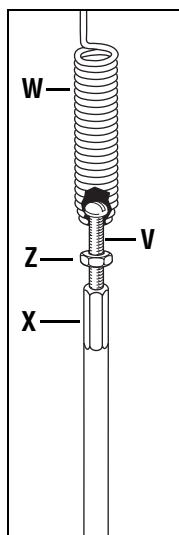

Fig. 2-5: Cable spring and adjuster.
- 2.** Thread the #10-24 hex nut (Z, Fig. 2-5) halfway onto the screw (V) which runs through the spring (W, Fig. 2-5).
- 3.** Thread the screw (V) into the cable adjuster (X).